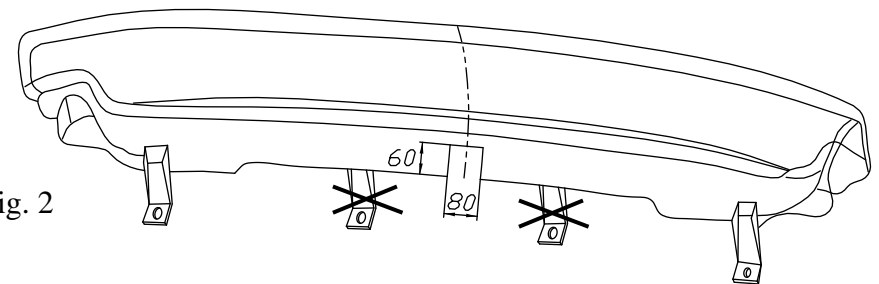

Fig. 2
1. Disassemble rear lights unit and bumper. Cut out handles of the bumper and saw off fragment in its axis according to figure 2.
4. Underneath the car drill holes A and B into boot using bit  $\varnothing 11\text{mm}$ . Inside boot apply fish-plates (pos. 4 and 5). Mark holes C and D. Remove fish-plates and drill marked points C and D by bit  $\varnothing 11\text{mm}$ .
7. Into drilled holes put suitable distance sleeves (pos. 6, 7, 8 and 9) as shown in the drawing.
8. Inside boot apply fish-plates (pos. 4 and 5). Put in bolts M10x110mm (pos. 10) and M10x100mm (pos. 11).
9. Underneath the car, on protruding bolts apply main bar of the towbar (pos. 1) and fix as shown in the drawing.
11. Fix body of the automat and place tow-ball according to supplied instruction. Note! Remember to place socket plate (pos. 3) as shown on the drawing 1.